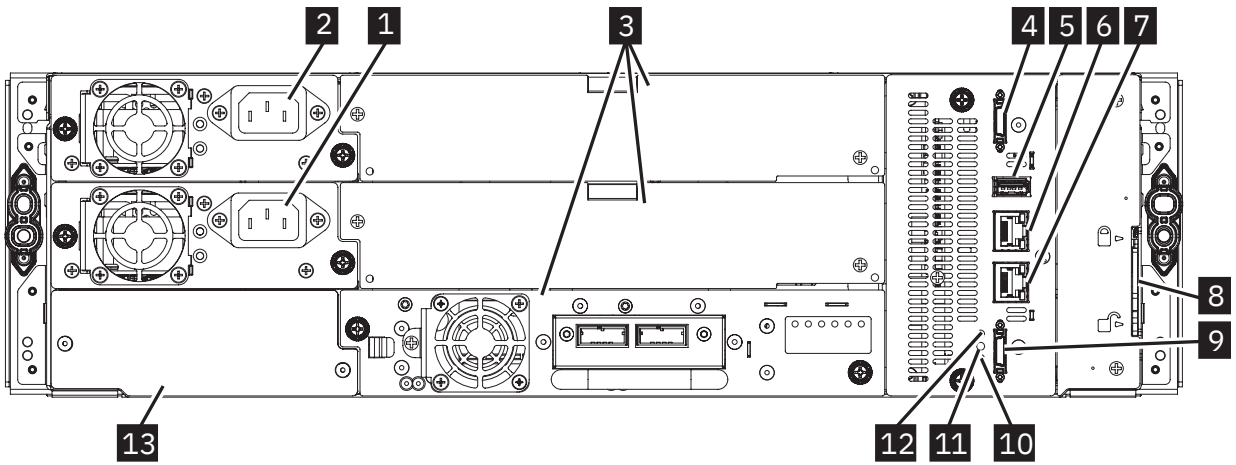

Figure 56. Rear panel
The library base module has error and warning LEDs on the front panel (see Figure 56 and table 33). Many of the library components have status LEDs which are visible on the rear of the library. The Management GUI provides fault indicators.
2. On the back of each module (base and expansion), on the module controller See Figure 56 on page 85 and Table 34 on page 86.